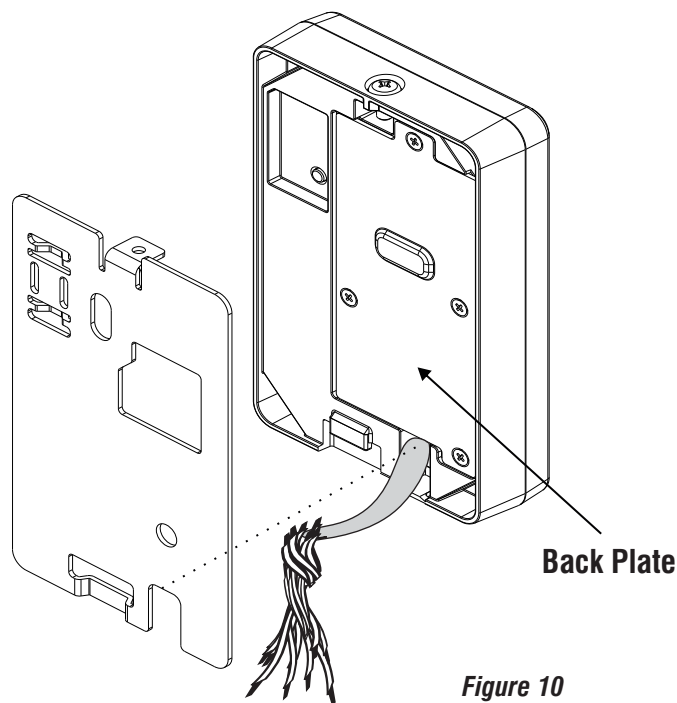

Figure 10
3. Pull out the Cables from the Back Plate hole and lead the cables outside from the bottom opening of COSEC ATOM, as illustrated in Figure 10.